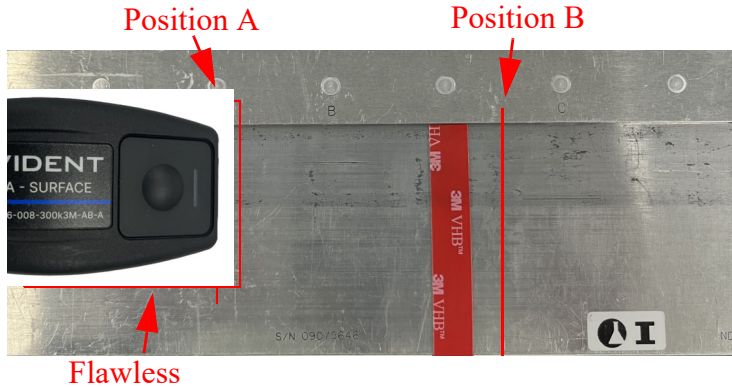

Figure 4-24 Position Surface Probe
3. Position the probe in the flawless **Position A** of the reference standard (See Figure 4-24 on page 140).